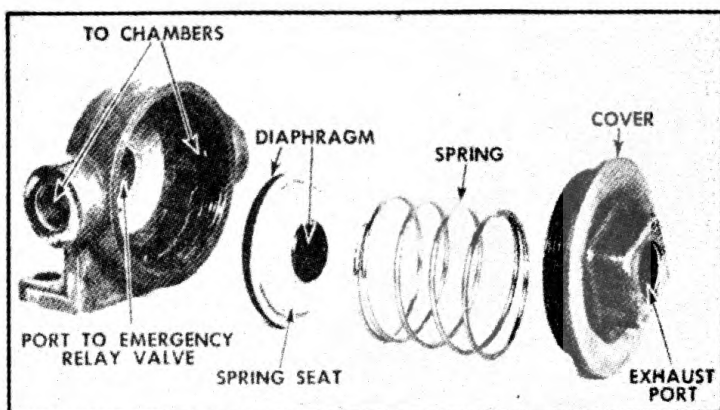

FIGURE 47. QUICK RELEASE VALVE—DISASSEMBLED
18. **QUICK RELEASE VALVE.**—*a. Operation* (Figure 47).—(1) Quick release valve is mounted on converter gear frame between the two brake chambers.
c. Disassembly.—This valve can be disassembled without removing unit from trailer. Screw off cover, remove spring and lift valve assembly out (Figure 47).